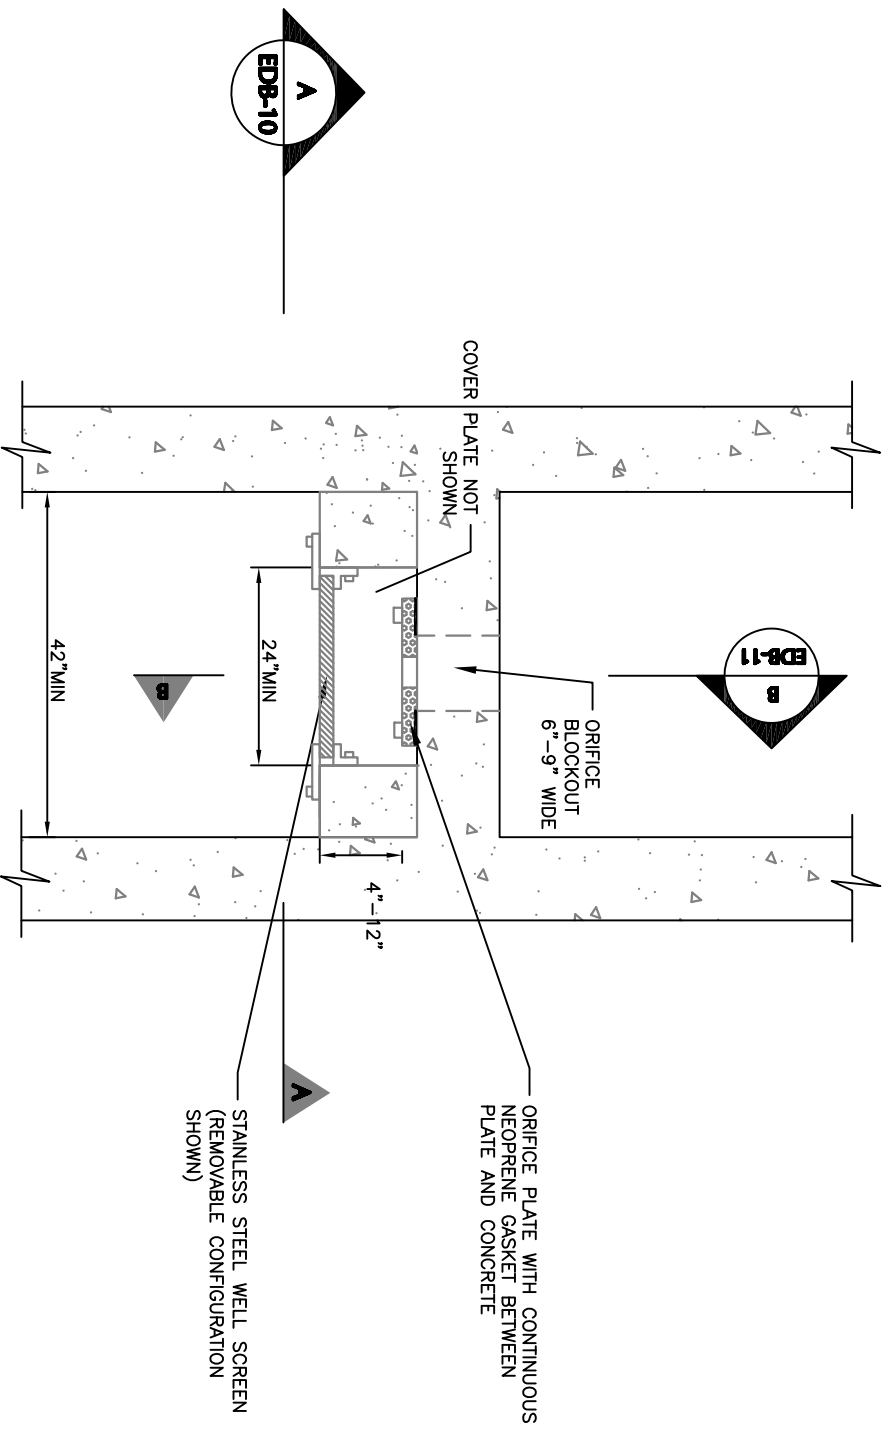

FIGURE EDB-9
NOTE: CONFIGURATION ASSUMES ORIFICES ARE LARGE ENOUGH THAT A WELL SCREEN IS NOT REQUIRED. IF WELL SCREEN IS NEEDED, SEE FIGURES EDB-9 THROUGH EDB-11 FOR ADDITIONAL DETAILS.
6. CONFIGURATION ASSUMES ORIFICES ARE LARGE ENOUGH THAT A WELL SCREEN IS NOT REQUIRED. IF WELL SCREEN IS NEEDED, SEE FIGURES EDB-9 THROUGH EDB-11 FOR ADDITIONAL DETAILS